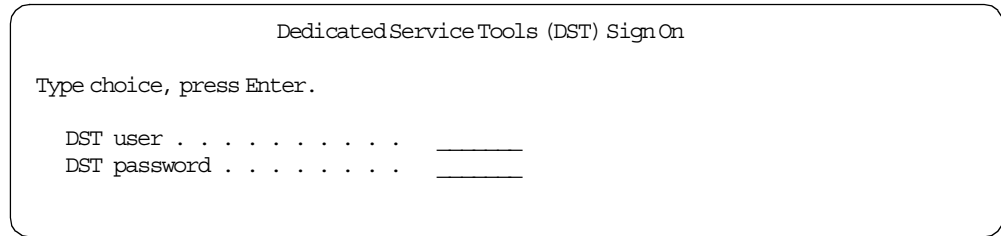

Figure 427. Dedicated Service Tools (DST) Sign On display
- The display in Figure 427 appears. Sign on using the appropriate Dedicated Service Tools (DST) user profile and password.